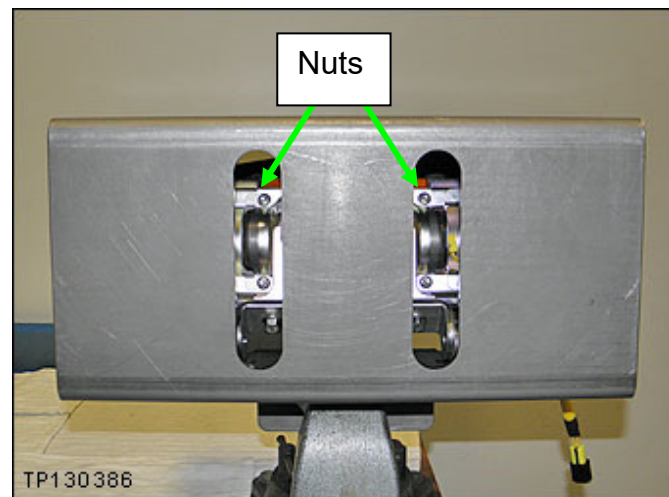

Figure 16
**NOTE:** Centering the module in the support will allow access to the inflator securing nuts through the slots in the support (see Figure 16).